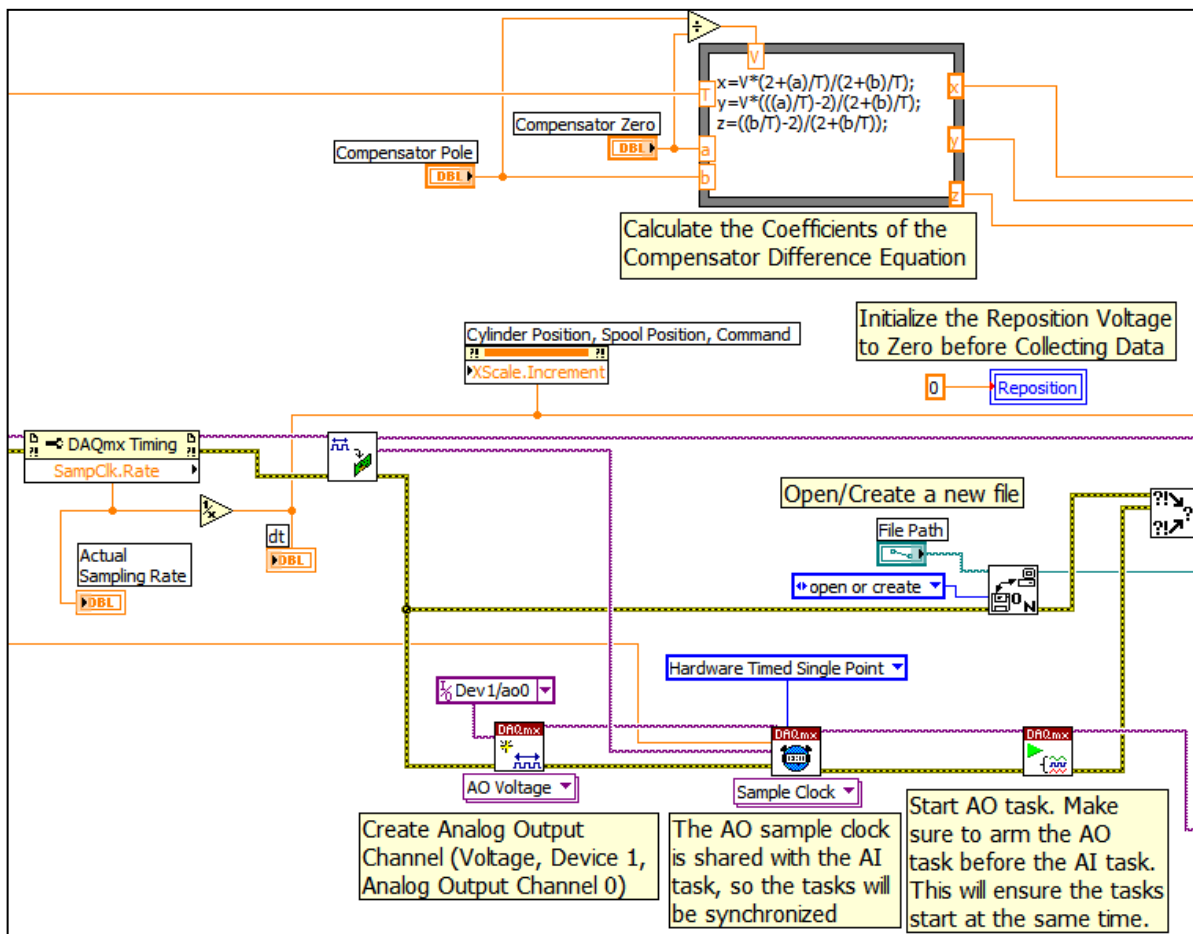

Fig. 3. Segment to Initialize the Analog Output Channel, Synchronize it with the Analog Input Channels, and Initialize important Control Variables
- The *initialization* of the analog voltage *output channel* includes defining the *physical device* (NI 6052E or NI 6251), the *channels* (in this case, just channel 0), the *sampling rate*, and the *sampling mode*. The block diagram for this section of the program is shown in *Fig 3*.